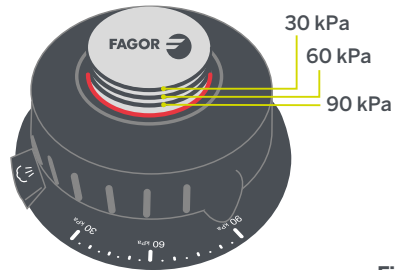

Fig. 7
Pressure regulator valve (3) (Dual Xpress model). This keeps the pressure stable inside the cooker at the selected pressure level. Turning the pressure regulator (15) anticlockwise (Fig. 7) allows you to gradually increase the working pressure: traditional cooking (30 kPa), fast cooking (60 kPa) and super-fast cooking (90 kPa).